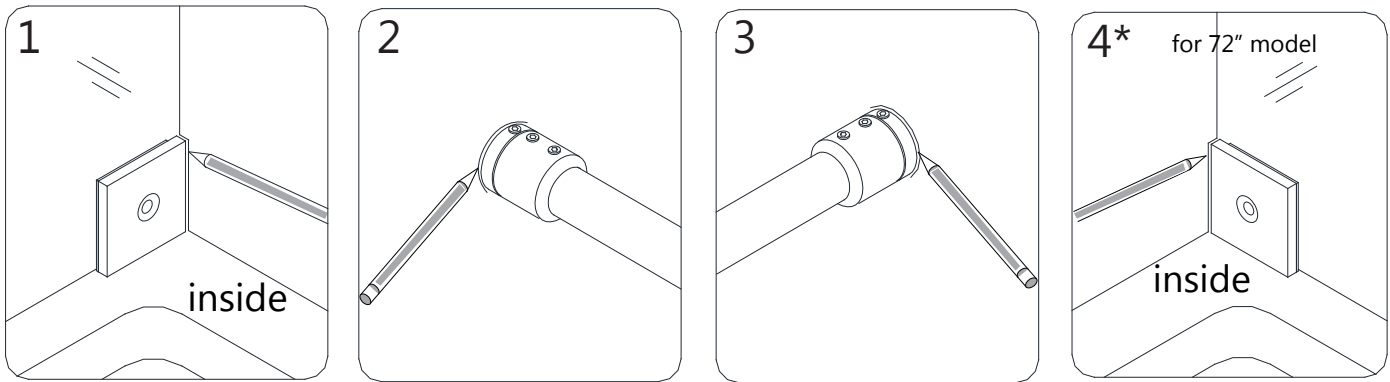

Fig 9
***NOTE:** If installing the **72" model**, also mark the position of the **Wall Bracket (#19)** on the opposite wall for the **Small Stationary Panel Glass (#23)** (see Fig 9.4*). (**Fig 9**)